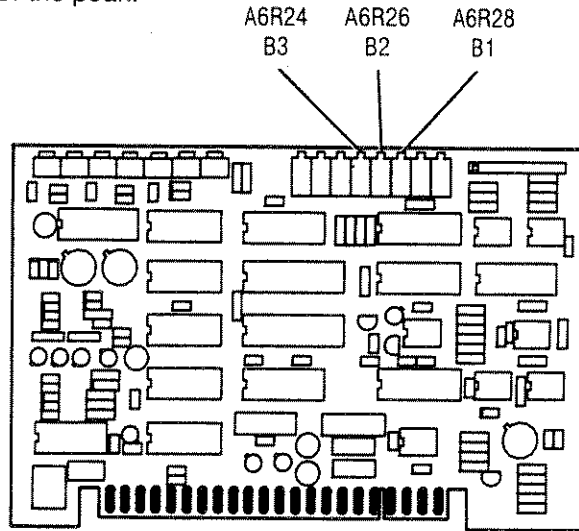

Figure 5-12. Band Overlap Adjustment Locations
6. Adjust A6R28 (B1) to bring the right side peak over to the switch point so that the right half of this peak mates with the left half of the other as shown in figure 5-13. See figure 5-12 for the adjustment location. The peak should be undisturbed as it moves through the bandswitch point.